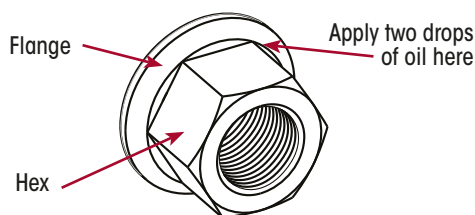

Figure 122: Two-Piece Flange Nut
IMPORTANT: If reusing two-piece flange nuts, apply two drops of SAE 30W motor oil at the point between the flange and hex of the nut. Refer to Figure 122.
- B. Apply two drops at the point between the flange and hex of the nut. Refer to Figure 122.